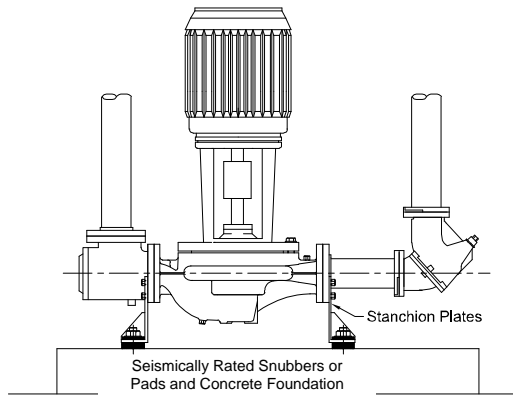

Fig. 2.8 Seismic region installation
- 2.8 Fig. 2.8 illustrates installations with stanchion plates for seismically active regions. Seismically rated isolation pads or snubbers with bolts isolated from the stanchion plates are installed to restrain the pump during a seismic event. Pipe hangers carry the weight of the equipment as seismic components are designed only to restrain the equipment during a seismic event.